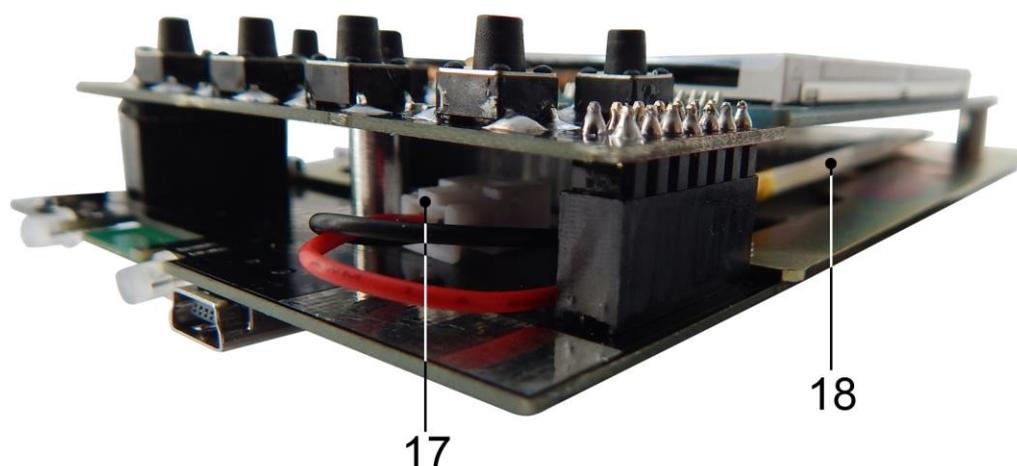

Figure 9.4.3 – Replacing the battery
9.4.6. The battery (18) is located on the chassis under the screen module and secured with double-sided tape. Carefully disconnect the battery connector (17) from the connector located on the PCB under the control button module (Figure 9.4.3). Remove the old battery (18) and remove the old double-sided tape that was attached to the chassis.